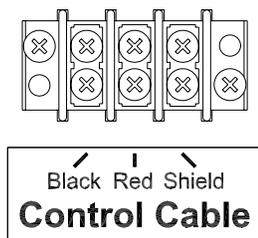

Figure 17 Control Cable Wiring Diagram
7. Connect the cable to the terminal block labeled **Control Cable** on the delay of game timer junction chassis according to figure 17.